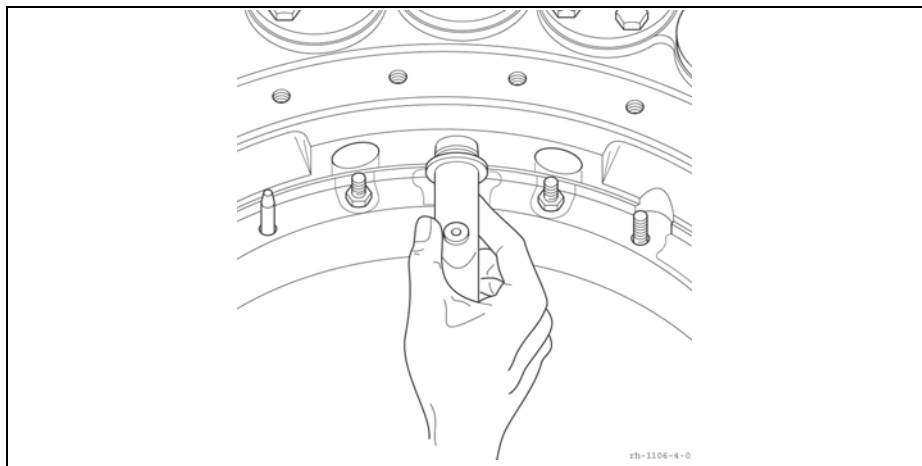

Figure 20 Removing suction pipe
6. Lift the diverter switch insert carefully and vertically out of the diverter switch oil compartment, **Figure 20**.
7. Remove the suction pipe. The connecting piece in the on-load tap-changer head must be withdrawn by pulling in and off, **Figure 20**. Note the connecting piece's o-rings.